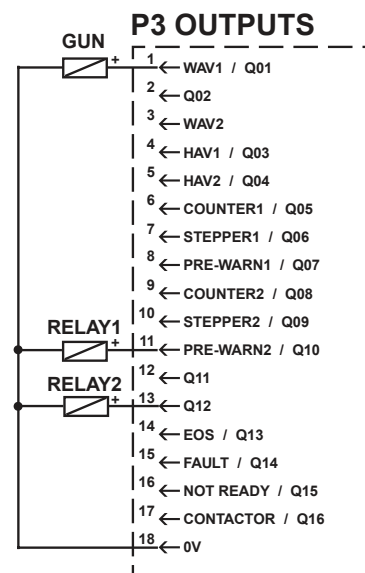

Figure 9-4.
3. Connect the indication relays RELAY1 and RELAY2 to connector P3 as shown in Figure 9-4 (if required).